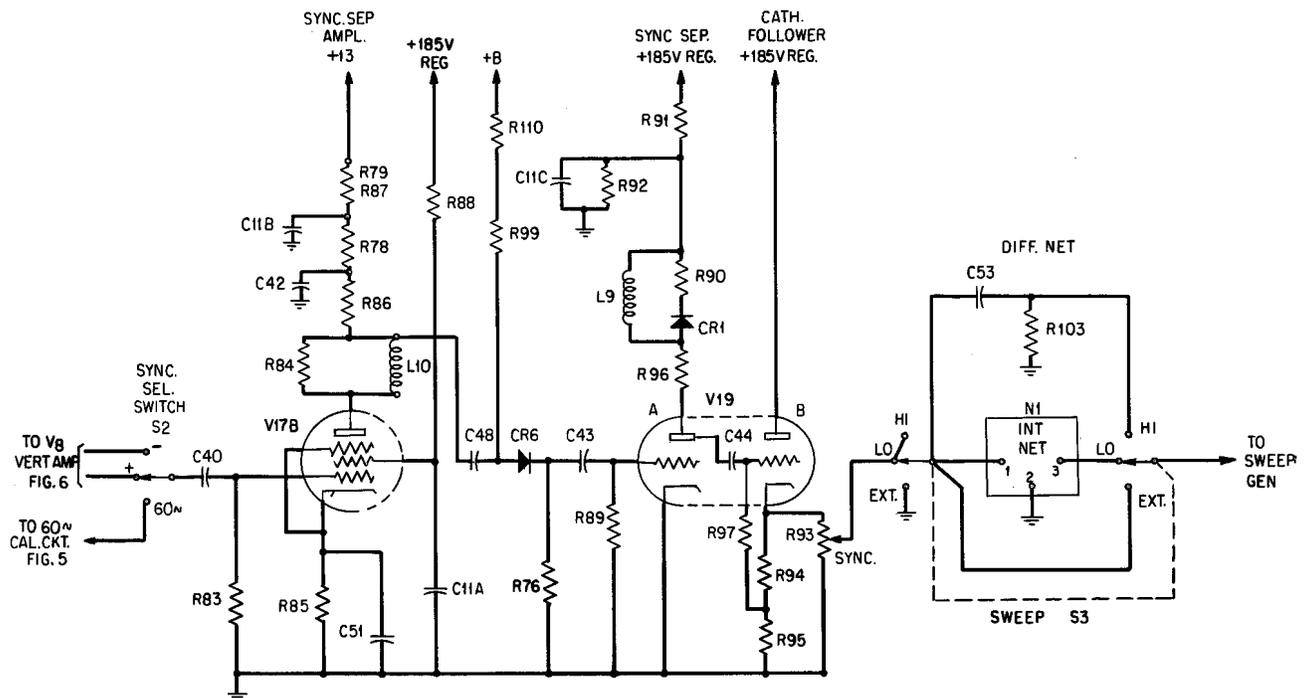

Fig. 9 — KS-15512, List 5 Oscilloscope Sync Separator Circuit
4.17 (E) Sync Separator Circuit: (See Fig. 9)